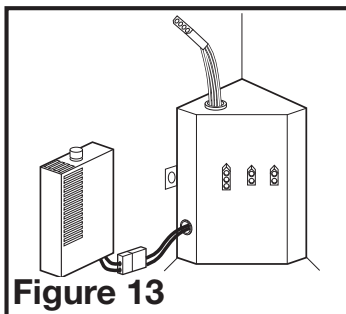

Figure 13
- 3c. **HUMIDITY and MOTION SENSING MODELS:** Plug the fan's 2 pin and 3 pin quick connect motor cords into the corresponding receptacle located on the wire compartment cover. Connect the two pin connector from the humidistat compartment to the two pin connector from the side of the wire compartment cover. Plug the 3 pin quick connect motor cord into the shorter end of the included harness then into the receptacle located on the top of the wire compartment cover. These cords will only fit one way into the receptacles (**Figure 13**).